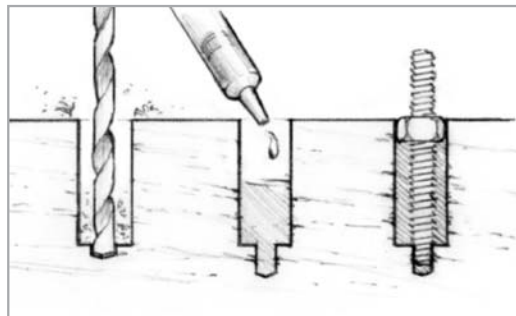

Figure 6-4 Bond threaded rods or studs into the substrate as an alternative for easily removable hardware.
3. Wet out the lower end of the stud and work thickened epoxy into the threads to avoid air voids around the stud. Push the coated stud into the epoxy filled hole. A small amount of epoxy should squeeze out around the nut. Allow the epoxy to cure thoroughly before tightening the nuts (*Figure 6-4*). The top of the nut should be barely above the surface. This helps to reduce the creep load on the epoxy when the hardware item is tightened down.